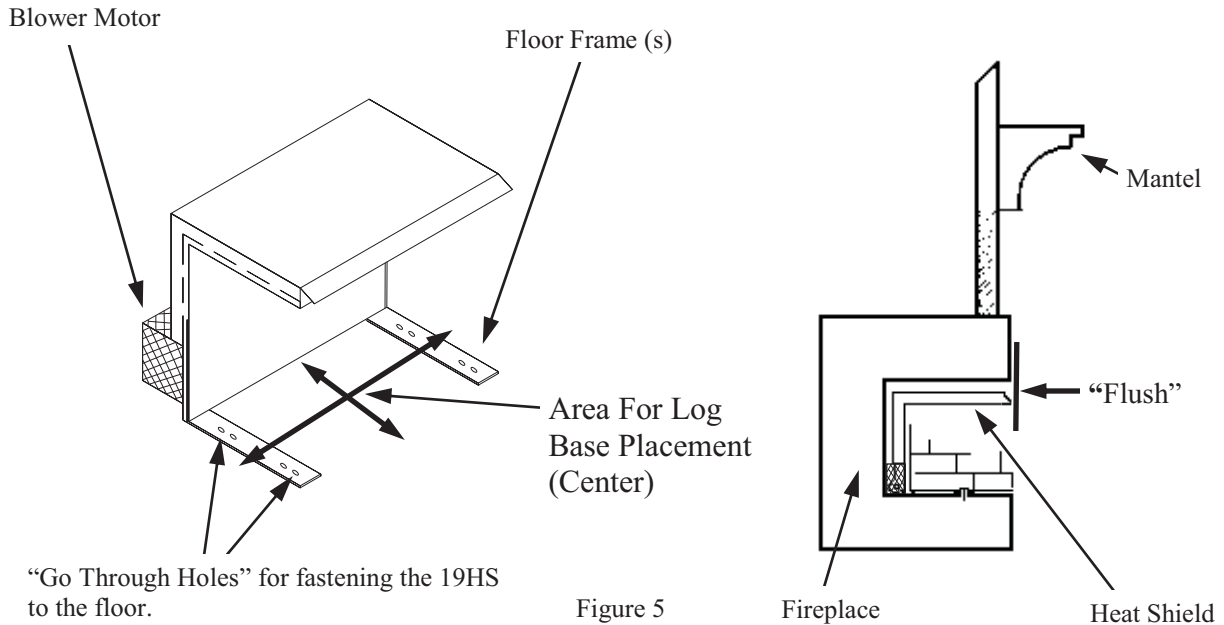

Figure 5
**NOTE:** Centrally locate the Heat Shield in the fireplace and place it deep enough into the fireplace to accomplish adequate draft (if use as a vented heater is planned). Ensure that the Heat Shield front is inside the front edge of the fireplace , see Figure 5. Using the screws and anchors provided, fasten the Heat Shield to the floor of the fireplace. On each side of floor frame of the Heat Shield base, there is a “go through hole”. Position the Heat Shield as described above. Mark the hole for drilling. See Figure 5.